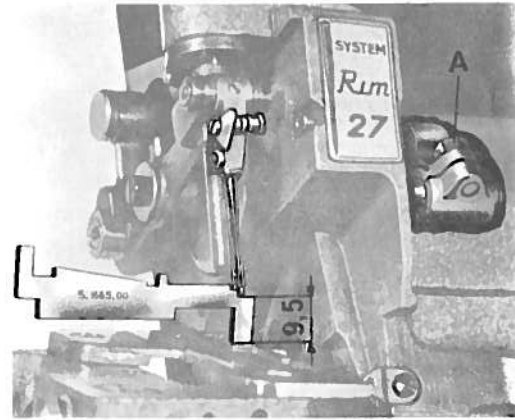

fig. 3
3. Positioning the overedging needle (fig. 3)
- if height adjustment of the needle clamp is necessary, loosen bolt 'A' (fig. 3) and set distance with gauge S. 1665.00.